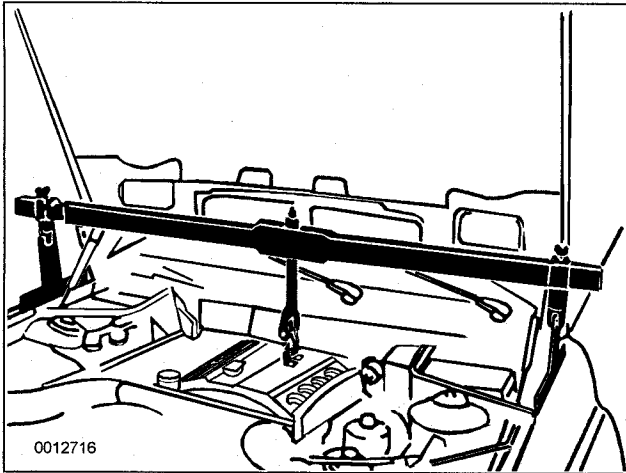

Fig. 10. Engine support equipment used to support engine from above before removing transmission.
2. Install engine support across engine bay. Raise engine so that weight of engine is supported. See Fig. 10.